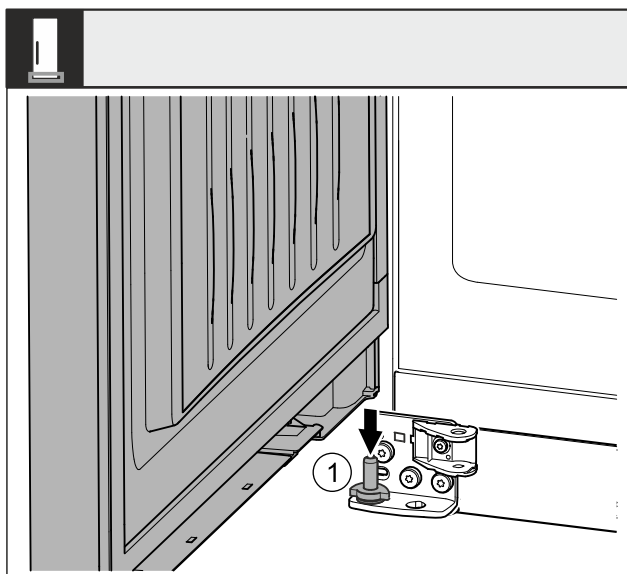

Fig. 43 *
- ▶ Lower the door onto the bottom bearing bolt Fig. 43 (1).*